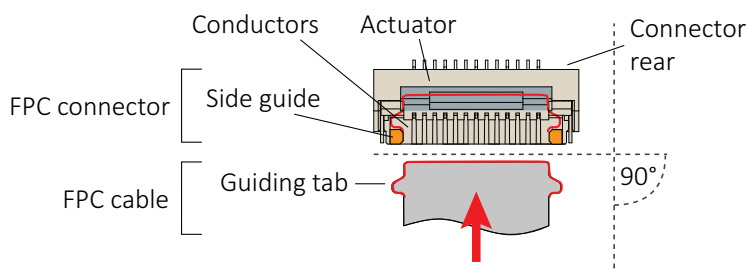
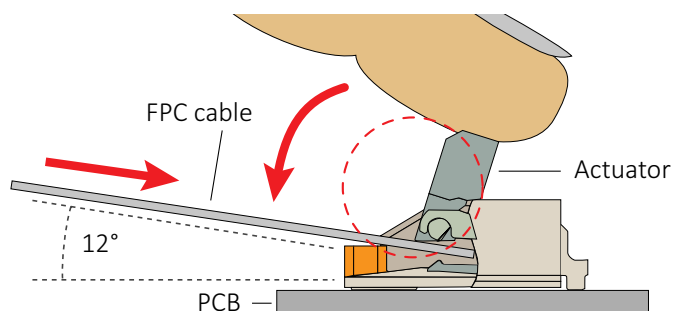

Figure 8: FPC cable and FPC connector
Figure 9: Engaging the FPC cable in the FPC connector
2. **Ensuring proper cable direction between host and camera**, take the FPC cable with conductors facing the FPC connector conductors (see Figure 8).
At a horizontal angle of 90° to the connector's rear (see Figure 8) and at a vertical angle of 12° to the PCB (see Figure 9), slowly insert the FPC cable into the actuator...
4. ...until cable guiding tabs are caught between connector rear and side guides (see Figure 8). Pull the cable slightly to ensure guiding tabs are properly engaged.
5. Holding the FPC cable in position, flap down the actuator to closed position (see Figure 9).